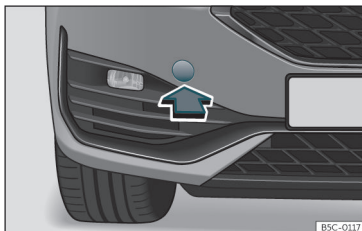

Fig. 43 On the right side of the front bumper: remove the cover.
The housing of the screw towing eye is on the right side of the front bumper behind a lid»» **Fig. 43**.
- Remove the cover by pressing down on its base and leave it hanging from the vehicle »» **Fig. 43**.